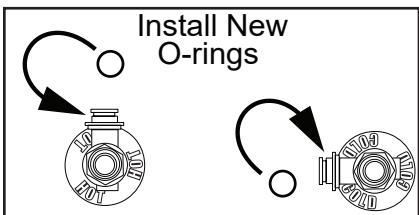

Figure 51 - Install Flex Hose to Smart Valve
**13** Remove O-rings installed to hot and cold t-nipples and replace with larger o-rings (15.5mm) provided in kit. See Figure 51.